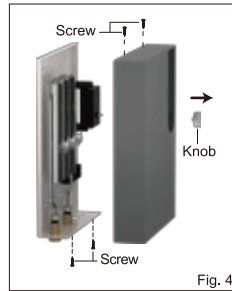

Fig. 4
5. Remove the knob on front cover and 4 screws on the top and bottom edges of the unit, and then dismantle the front cover (Fig.4).